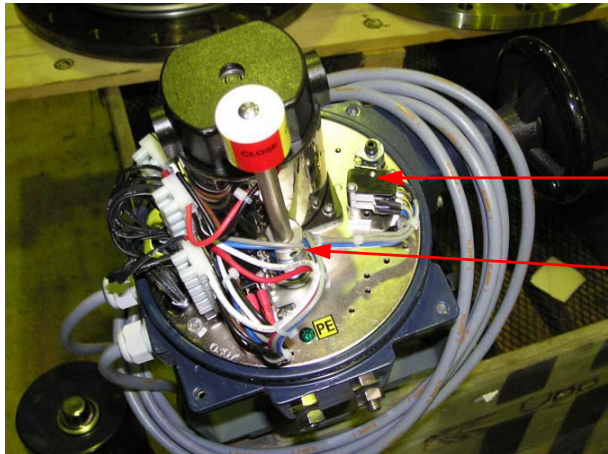

Figure 1: Flap drive with opened lid
- Open lid of flap drive (see Figure 1)
IMPORTANT: The torque switches (see Figure 1) must not be adjusted!